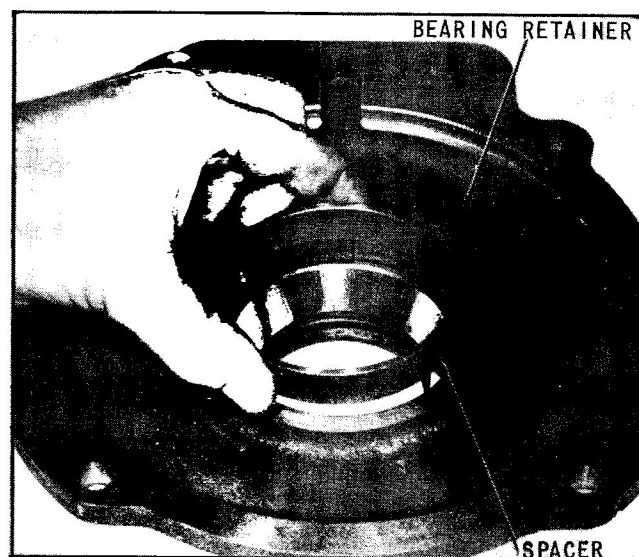

Fig. 43 Assemble Bearing Spacer
7. Install bearing retainer gasket, install the bearing spacer in recess of retainer and assemble retainer to rear of transmission, then replace the six 7/16-14 x 1 inch hex head bolts and lock washers, (Figs. 43 and 44).